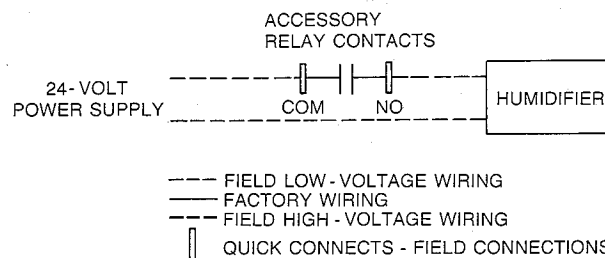

Fig. 14—Humidifier
12. Go to item 18.
NOTE: For 24-v accessory hookup, see items 13 through 18 and Fig. 14.